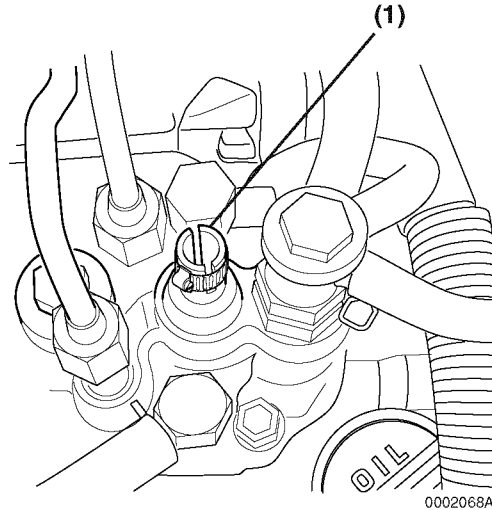
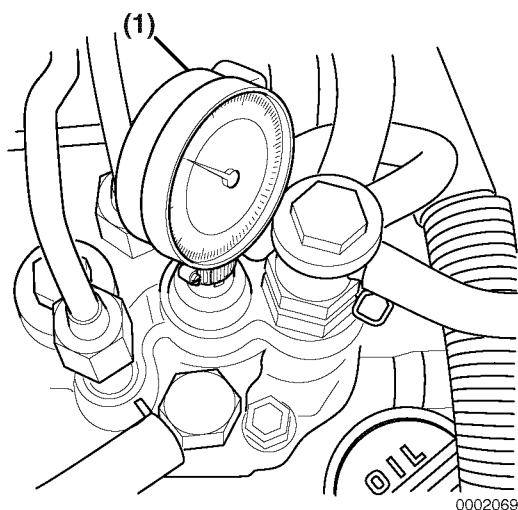

Figure 7-42
Figure 7-43
Note: Use the Yanmar part no. 158090-51831 M14 adapter for the MP2 fuel injection pumps (TNV82 - 88 model engines) or Yanmar part no. 158090-51841 for the M16 adapter used on the MP4 fuel injection pumps (TNV94 - 106 model engines) and Yanmar part no. 23000-013000 plunger adapter clamp **(Figure 7-42, (1))**.
5. Install a dial indicator **(Figure 7-43, (1))**, Mitutoyo No. 2050SB or equivalent, with a 30 mm extension, Yanmar part no. 158090-51870 or Mitutoyo No. 303613, into the adapter. Secure with the Yanmar part no. 23000-013000 plunger adapter clamp **(Figure 7-42, (1))** at approximately the mid-point of its travel.